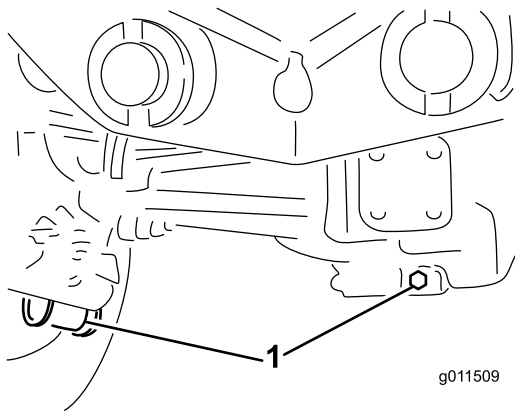

Figure 65
- Clean the area around the 3 drain plugs; 1 on each end and 1 in the center (Figure 65).